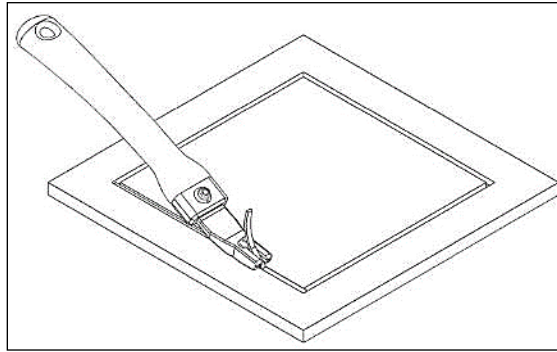

Figure 10. Gap Filler Removal
- 3.2.4. With the shallowest TGB installed (0.075"), apply forward pressure and guide the TGB through the gap filler. See **Figure 10**.